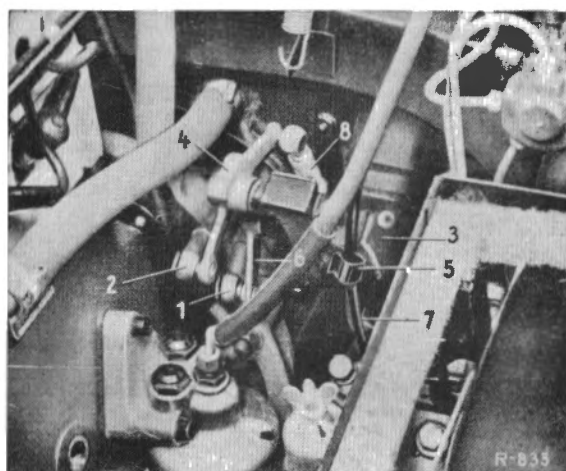

Fig. 00-1/2
8. Detach the gearshift linkage (Fig. 00-1/2).